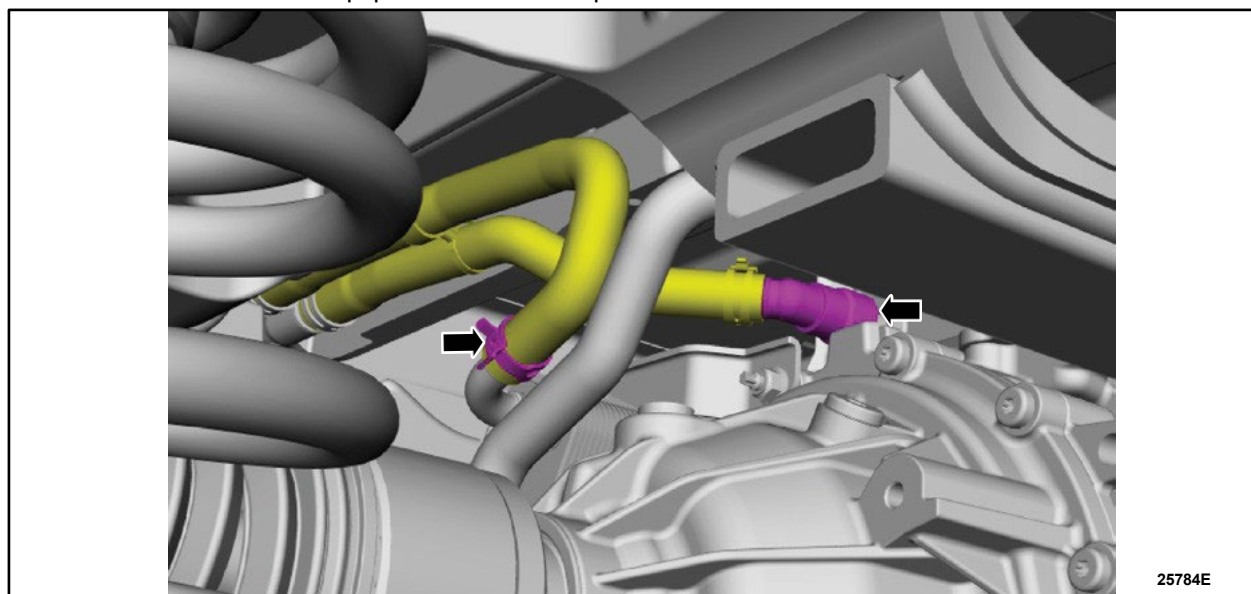

FIGURE 8
12. Disconnect the rear electric drive assembly cooling hoses. See Figure 8.